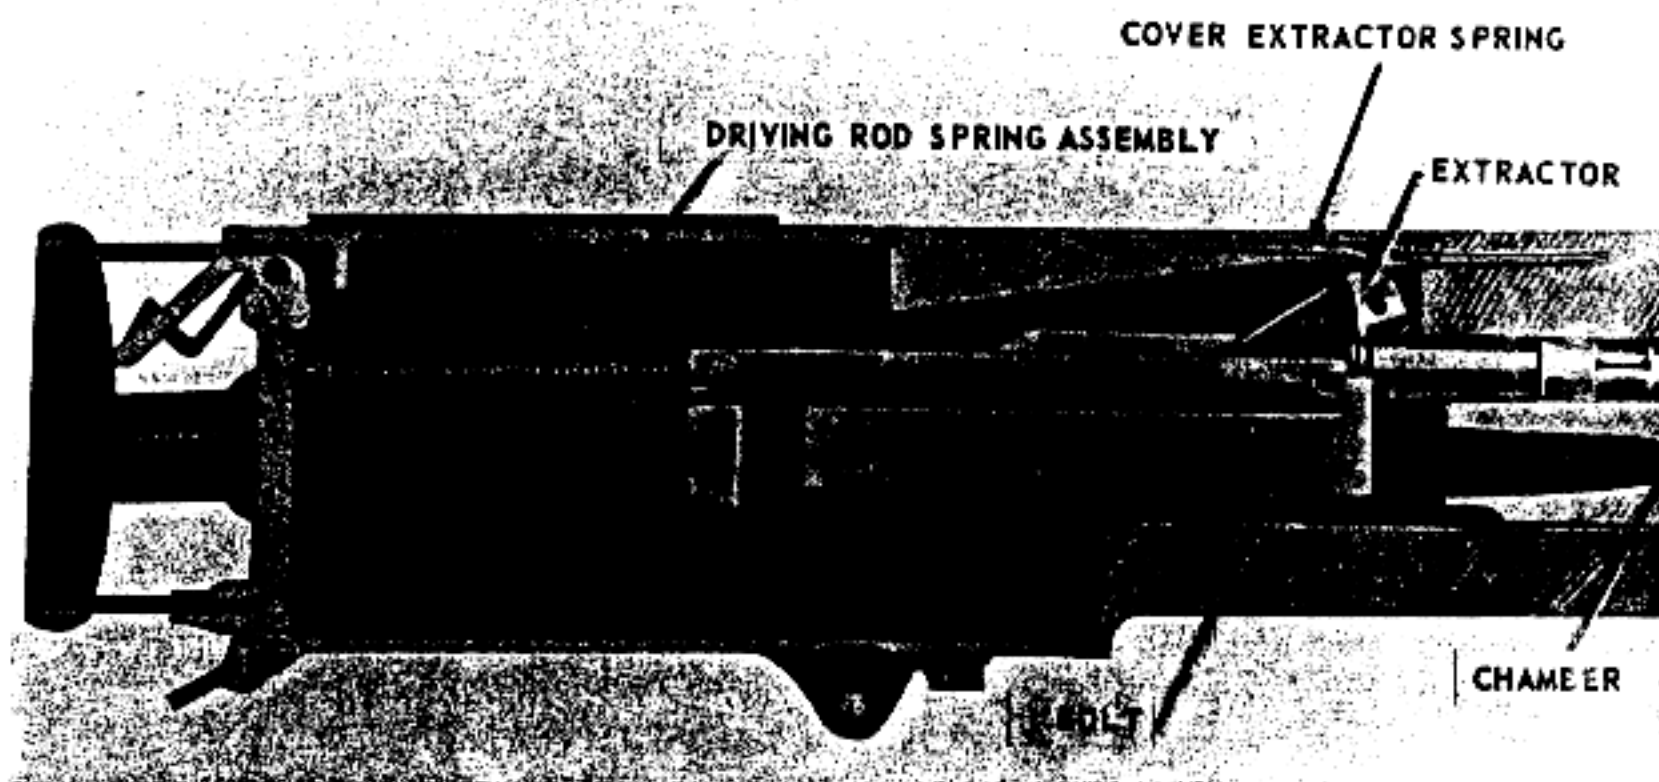

Figure 91. Feeding—withdrawing the first round from the feedway.
(1) The extractor grips the first round in the feedway and, as the recoiling parts move to the rear, withdraws it from the ammunition belt. Initially, the grip of the extractor is held secure by the downward pressure of the cover extractor spring (fig 91).